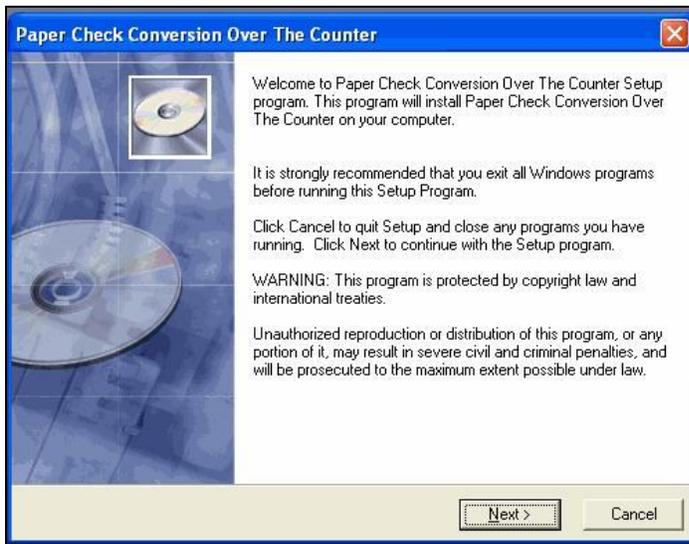

Figure 2.12
13. The Paper Check Conversion Over the Counter Welcome screen appears. (Figure 2.12).